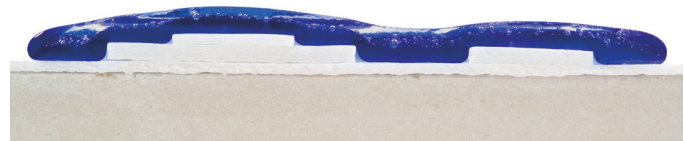

Figure 5: Cross-sectional view of kilnformed glass, fired at 1490°F (~810°C).
- At 1490°F (~810°C)—with a soak of about 5-10 minutes—the glass will pick up the exact texture of the fiber material and will conform more closely to the paper pattern's sharp edges. At this temperature, the upper side of the glass will follow the contour of the fiber paper stencil slightly. The intensity of the color (or color saturation) of a transparent glass will be fairly uniform because the glass thickness will be fairly uniform. (Figure 5)